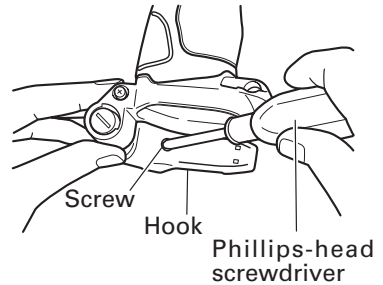

Fig. 10
- (1) Loosen the hook screw with a Phillips-head screwdriver (No. 1). (Fig. 10)